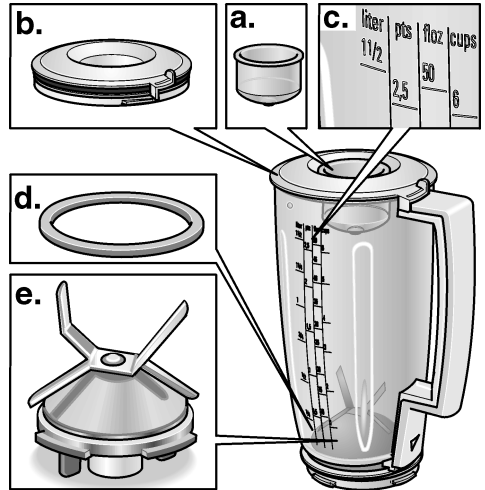

Figure 9
The MUM 6N11 UC Bosch Universal Kitchen Machine includes the blender accessory. The blender accessory consists of, figure 9.
1. Before using the blender for the first time, it is recommended that the blender jar cover, closure/funnel and blade/base assembly be washed. All components, except the blade/base assembly, are dishwasher safe. Remove the blade/base assembly from the blender, see figure 9.